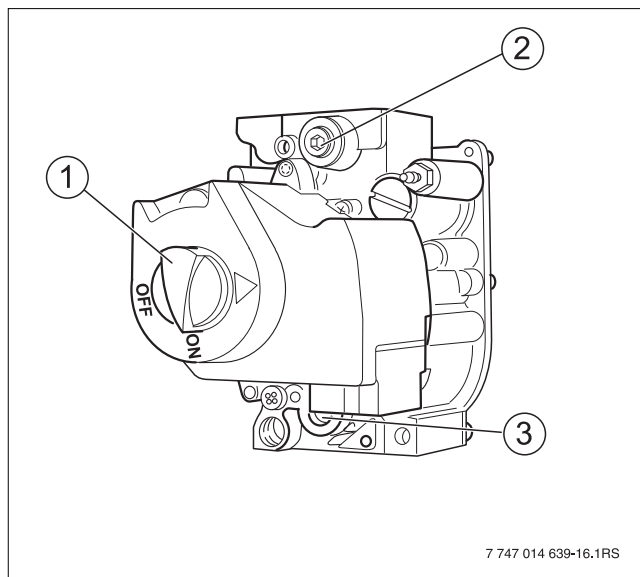

Fig. 8 Gas valve
- To measure the gas supply pressure, remove the screw plug from the orifice pressure test point (→ Fig. 8, [2], page 8) on the gas valve.